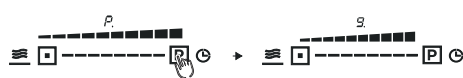

Fig. 37
To activate the power-assisted ventilation feature, press the power-assisted ventilation button (P) on the hood control panel (Fig. 37).